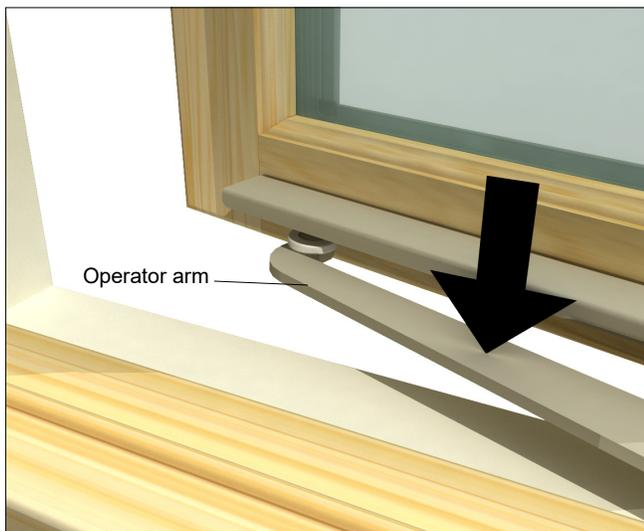
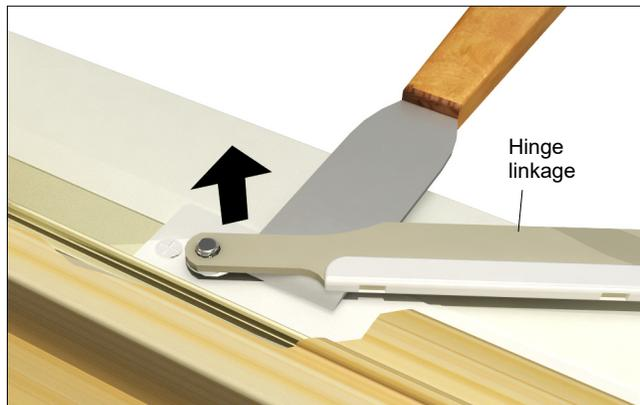
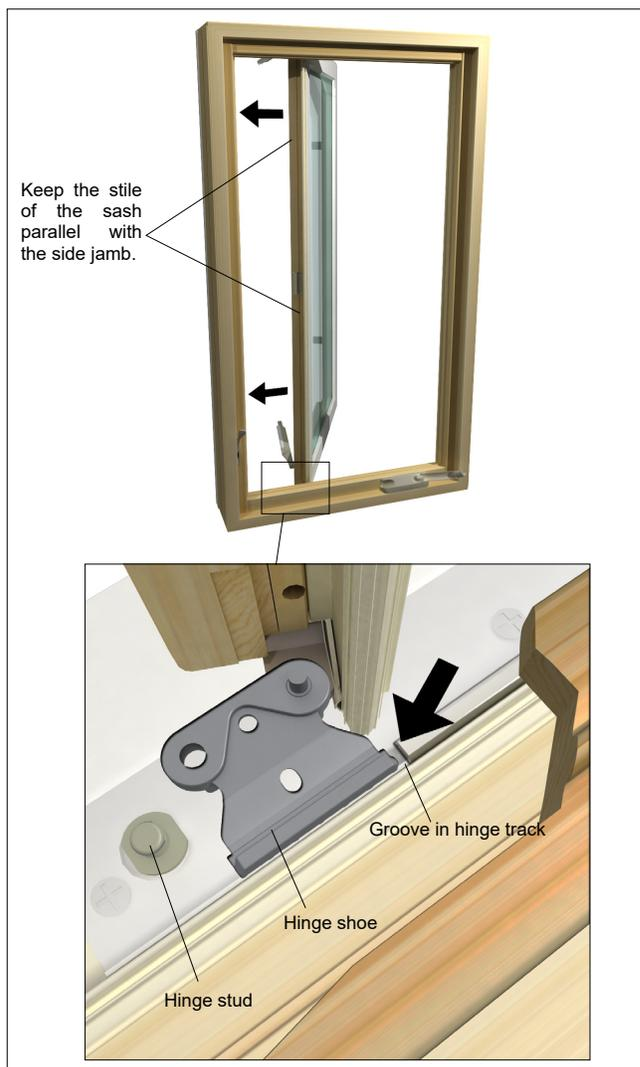

Figure 1 Detach operator arm.
Figure 2 Detach hinge linkages.
Figure 3
1. Open the sash approximately 4" (102).
2. With a firm grip on the sash, detach the operator arm from the track by pushing the arm down. See figure 1. Crank the arm back to the frame.
3. While fully supporting the sash, detach both the top and bottom hinge linkages from the studs. See figure 2.
4. Remove the sash by sliding it across to the groove in the hinge track. Both hinge shoes must be free of the groove in the hinge track before removal. See figure 3.
- To reinstall the sash, reverse the sash removal procedures. Keep the sash shoes flat up against the track just in front of the groove. For ease of installation keep the sash stile parallel to the side jamb and slide the top shoe into the groove in the track followed by the bottom. The sash should be fully supported until after both sash shoes are securely engaged with the groove in the hinge track, the hinges have been fully seated into the hinge studs and the operator arm has been attached. Reference figure 1, figure 2 and figure 3.